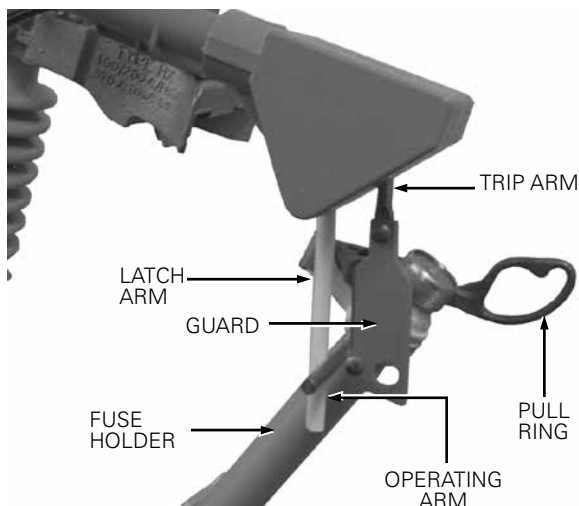
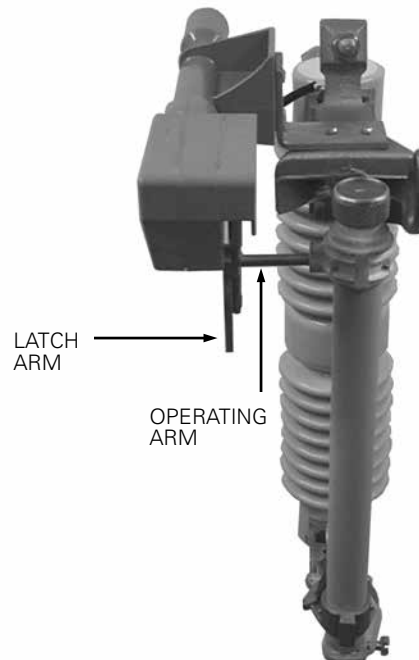

Figure 2. HX-CB loadbreak fuse cutout.
Figure 4. Loadbreak fuse cutout.
- With fused fuse holder\* in the cutout hinge and in the open position, slowly swing the fuse holder (or disconnect blades or current-limiting fuse assemblies) towards the closed position until the operating arm is in the position shown in Figure 2.
- With the loadbreak module in the unlatched position as shown in Figure 2, move the fuse holder (or disconnect blades or current-limiting fuse assemblies) side-to-side. The operating arm must always overlap the latch arm. See Figure 4.